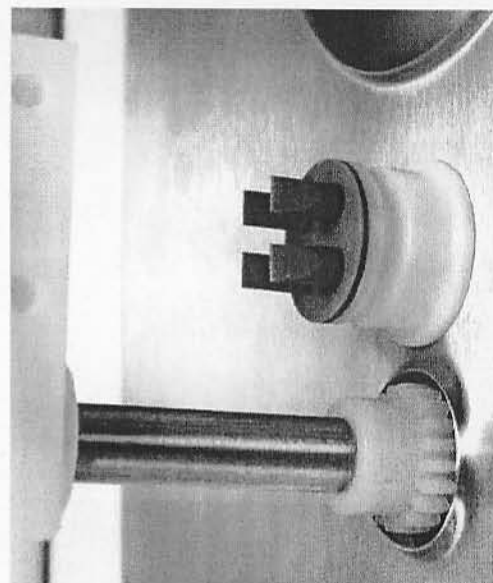

Fig. 37a
m. Align the check valve assembly on the syrup manifold with the holes in the back side of the mixing block. Guide the drive gear through the hole in the machine face just beneath the syrup manifold - Fig. 37a, 37b. Carefully seat the mixing block assembly onto the front of the SAS machine and secure with the two faspins.